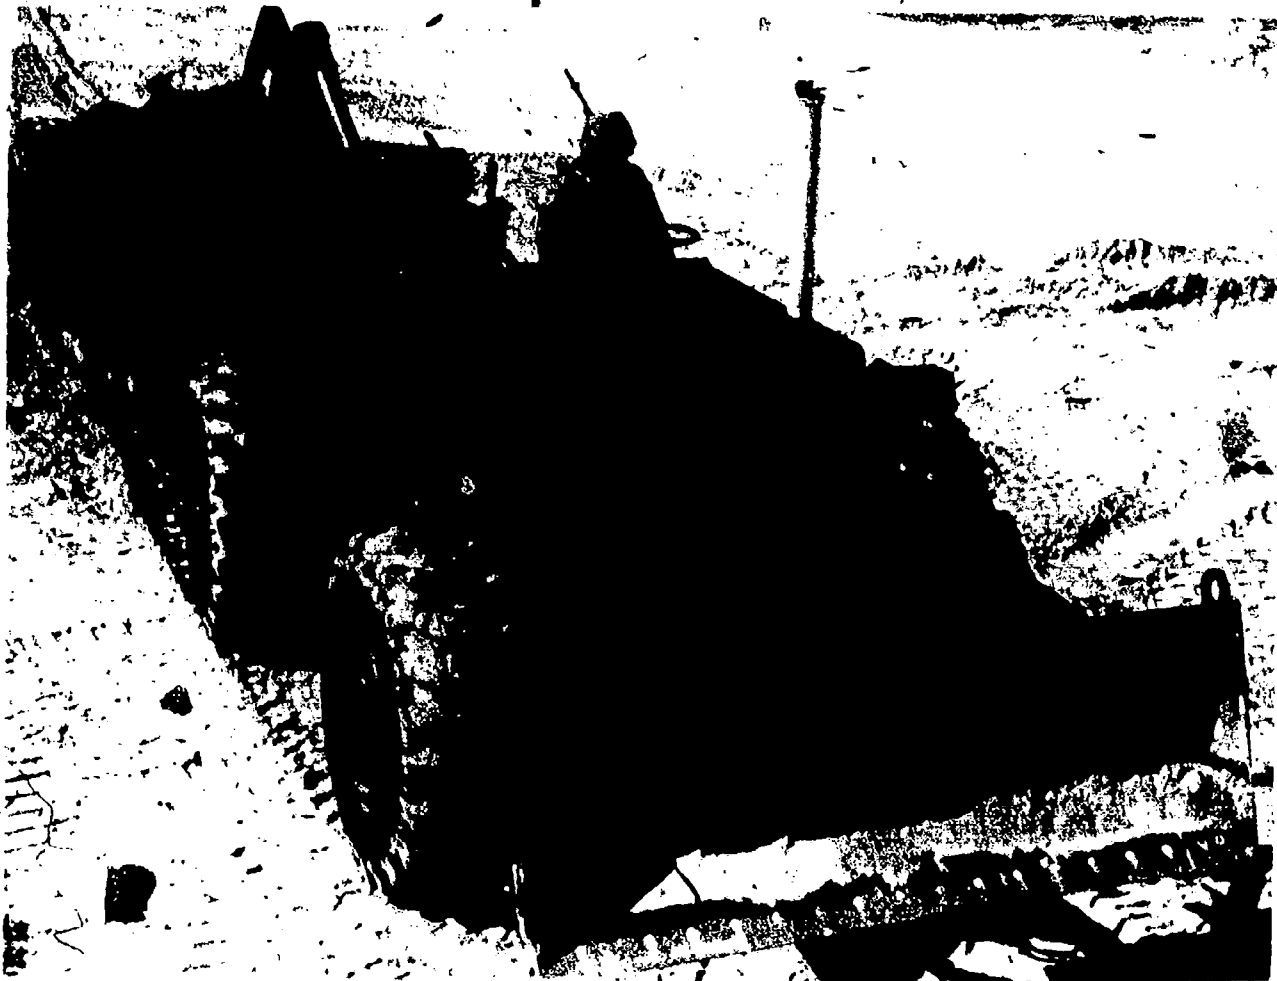

Fig 1-6. MRS-100 tractor and towed scraper.
- (1) MRS-100 (fig 1-6). The MRS-100 is designed specifically for Marine Corps use. It is a 4-wheel-drive, 4-wheel-steer vehicle with a weight transfer. It is designed for general purpose use as a prime mover in combination with a 4-wheel hydraulically operated scraper, and for light dozing, winching, and towing. The vehicle is equipped with an automatic transmission and a ^{71, 4914} diesel engine. It has a hydraulically powered, single-drum winch. It has a limited deep-water fording capability, and can be sectionalized in five units for air transport by helicopter. The tractor is used mostly by division and force engineer battalions. It provides them with a high-speed earthmoving capability when it is teamed with an 8-cu yd scraper.